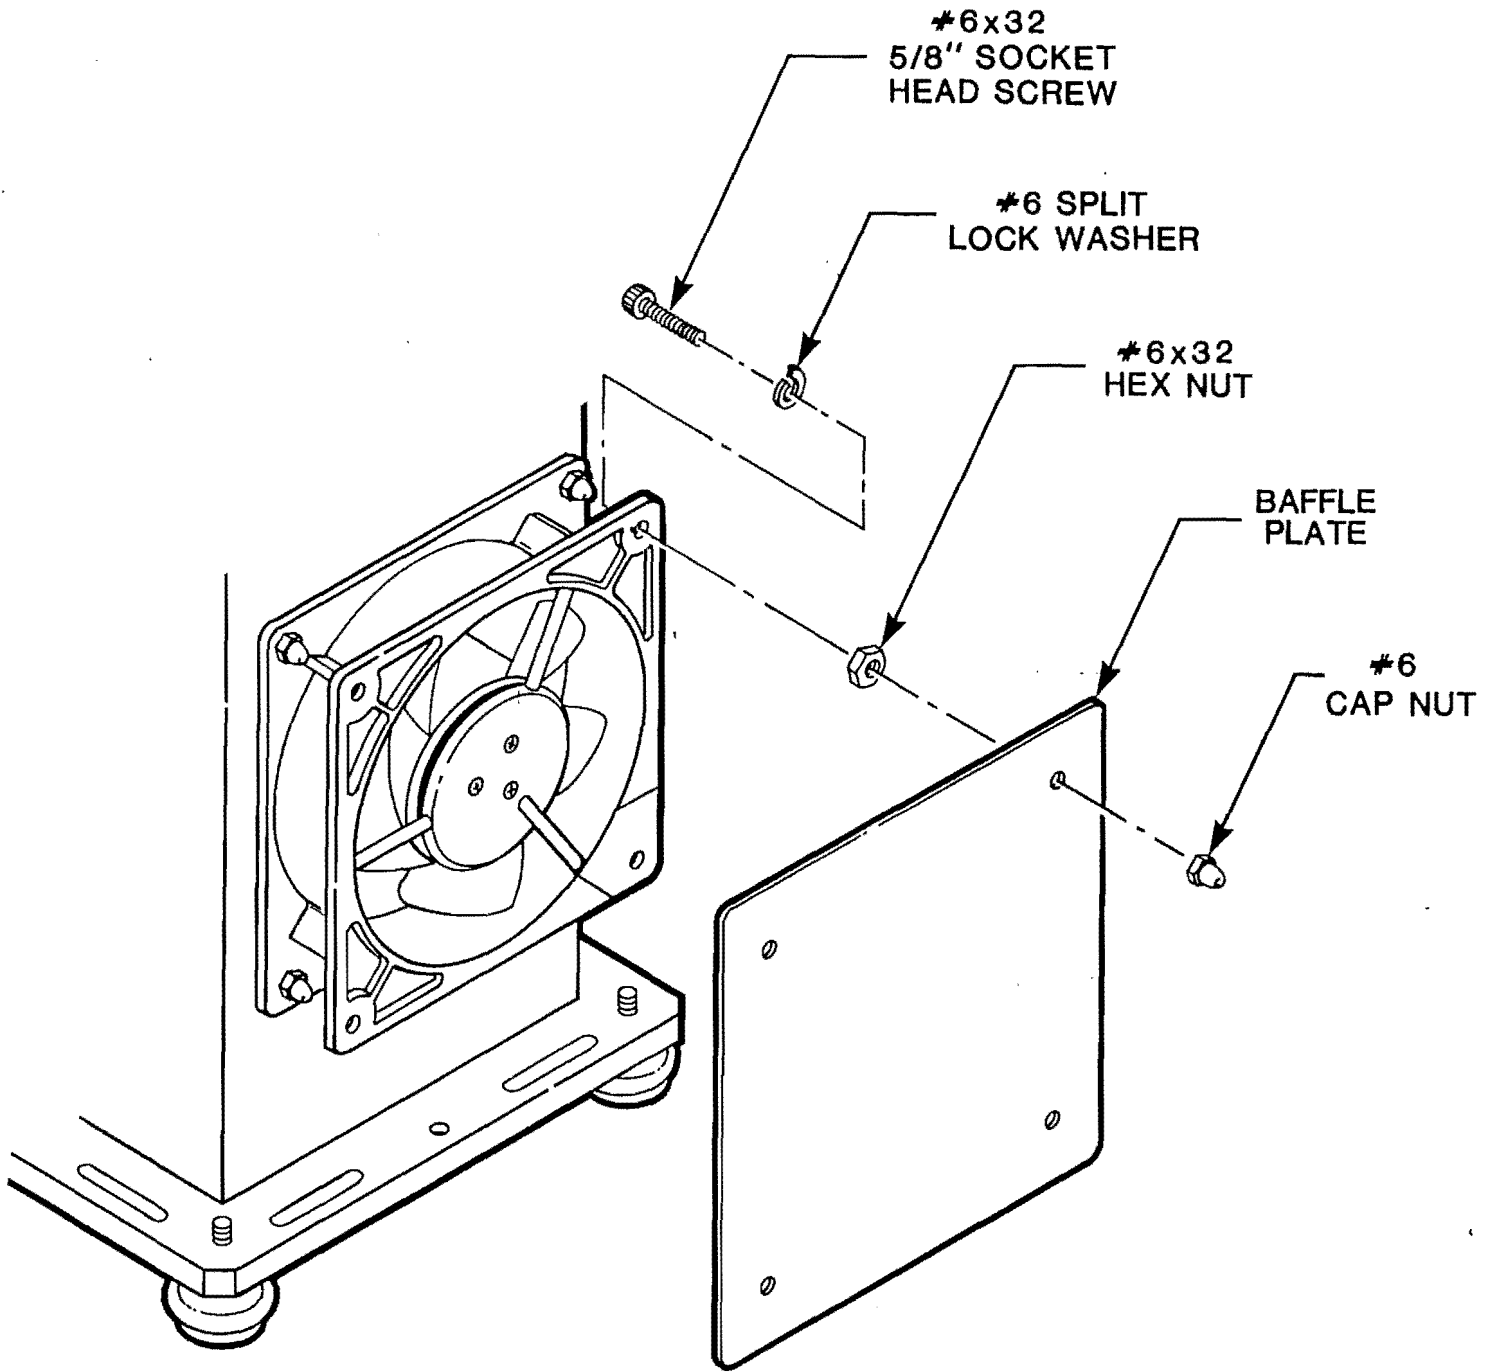

Fig. 8 Installation of Baffle Plate.
Table 2 shows which lamps require a baffle, and Fig. 8 shows the installation. To install the baffle plate:
- 2 Install the Baffle Plate as shown in Fig. 8, using the four screws from the finger guard. After installing the baffle recheck the current and voltage characteristics. This information is available in the Volume II catalog.